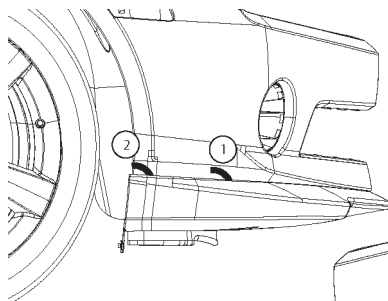

FIGURE 54A
16. Using 2 people remove the tape tabs. Wet out after each tape tab is removed by firmly pressing (15 Lbs.) against the cladding. Refer to figure 54a & 54b.